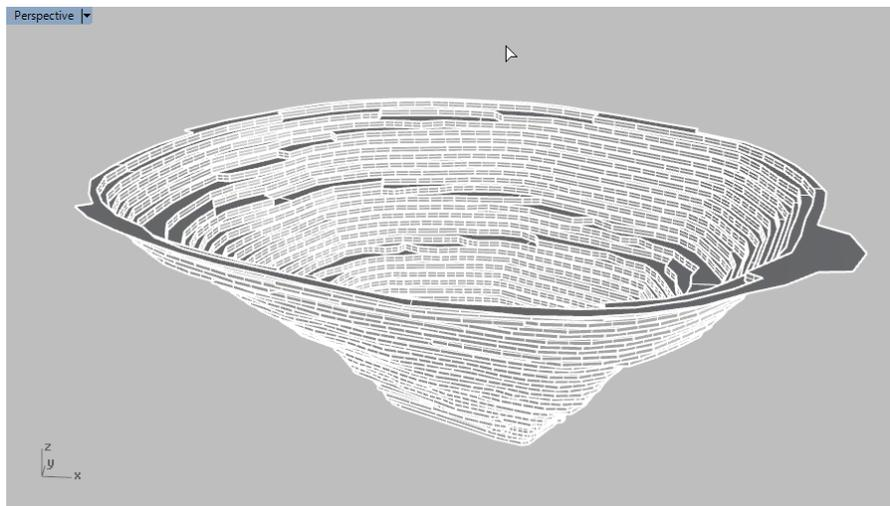

Figure 128: A single polysurface resulting from joining surfaces (benches) and polysurfaces (the vertical faces).
29. Type `_SelSrf` and `_SelPolySrf` to select all surfaces, then type `_Join` to join all the surfaces and polysurfaces into a single polysurface (Figure 128). Save your *Rhino* model as **Tut6C.3dm**.